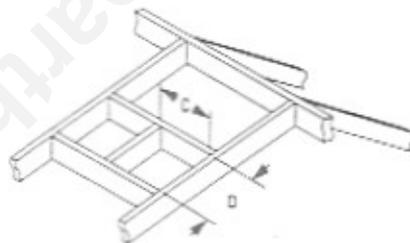

Figure 18
C. At transition from or to a horizontal run, the _DST5-90ELB/ _DST5-45ELB elbows install in the same manner as the straight vent sections. Apply Mill-Pac Black (700°F) high temperature sealant to the inner joints. Slip the inner elbow over the straight inner vent section. Secure with two (2) screws. Slide the outer elbow over the inner elbow, slip down over the outer vent section. Secure with two (2) screws.
F. Identify location for vent at the roof. Cut and/or frame opening per Roof Framing Chart and Figure 18.